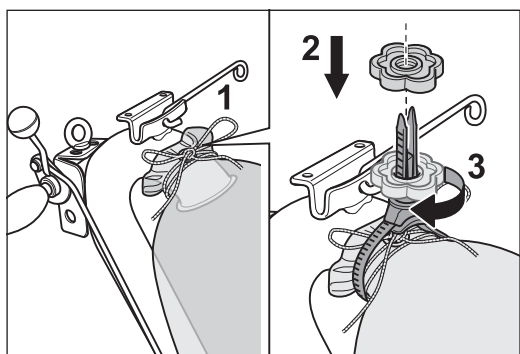

Fig. 6 Mount the dust bag without creasing using the cord (1) and the MultiClip (2 and 3).
- 6 Attach the dust bag with the cord and the MultiClip at the end of the guide tube (Fig. 6) and make sure that the opening of the guide tube is not blocked.